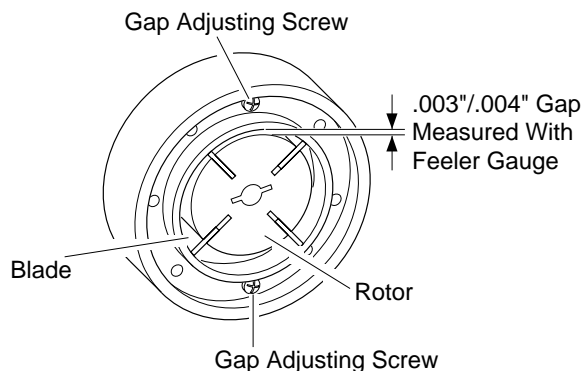

Figure 28 - Gap Adjusting Screw Locations
9. Check gap on rotor. Adjust to .003"/.004" if needed (see Figure 28, page 14).